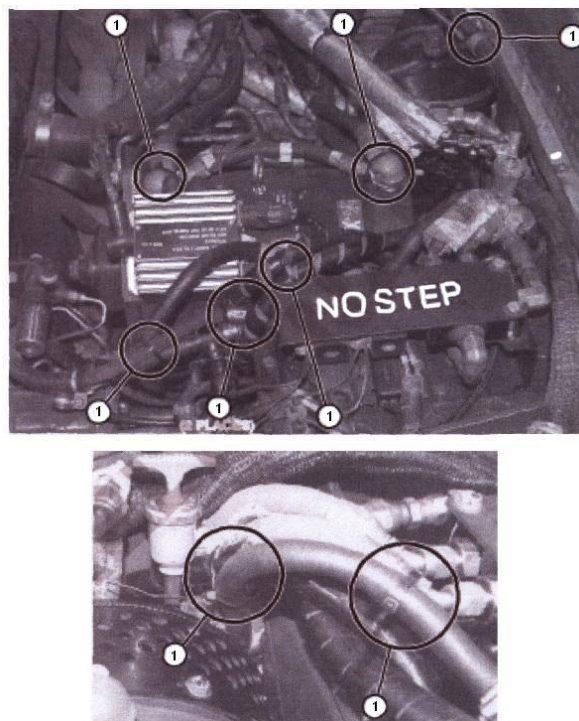

Figure 65
(1) Install 6437403-01M1 cable ties (1) in engine compartment as required as shown in **Figure 65**.